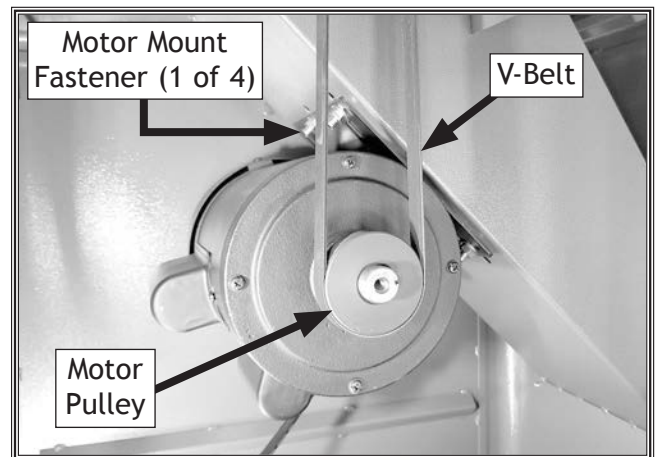

Figure 8. V-belt installed.
14. Loosen motor mount fasteners (see **Figure 8**). DO NOT completely remove fasteners.
15. Slide motor upward, place V-belt around cutterhead pulley and motor pulley, then slide motor down to rest on belt (see **Figure 8**).
20. Tighten motor mount fasteners (see **Figure 8** on **Page 3**).